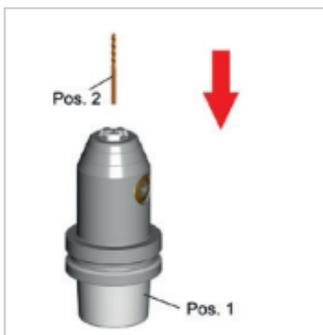

Figure 2: Inserting tool
2. Insert the tool (item 2) with the shank forward into the locating bore of the MICRO universal chuck until it stops (see "Figure 2: Inserting tool").